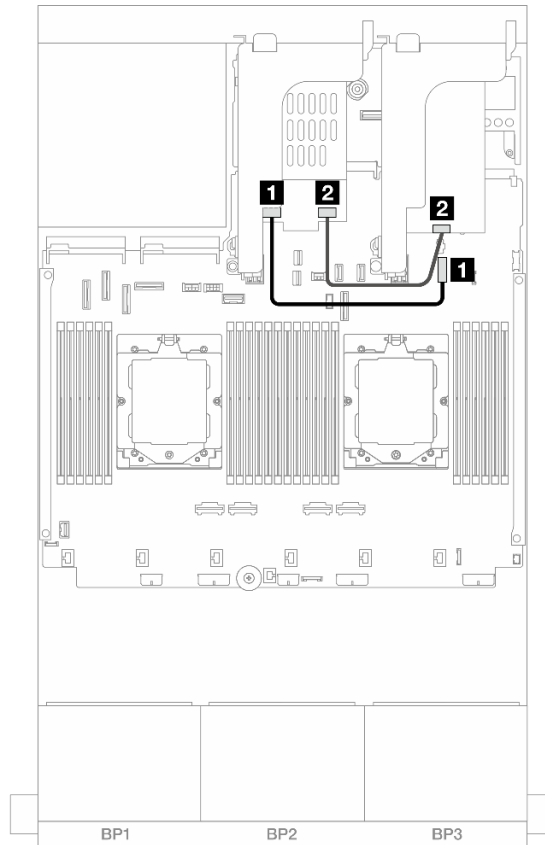

Figure 305. RAID cable routing
- Figure 305 “RAID cable routing” on page 315